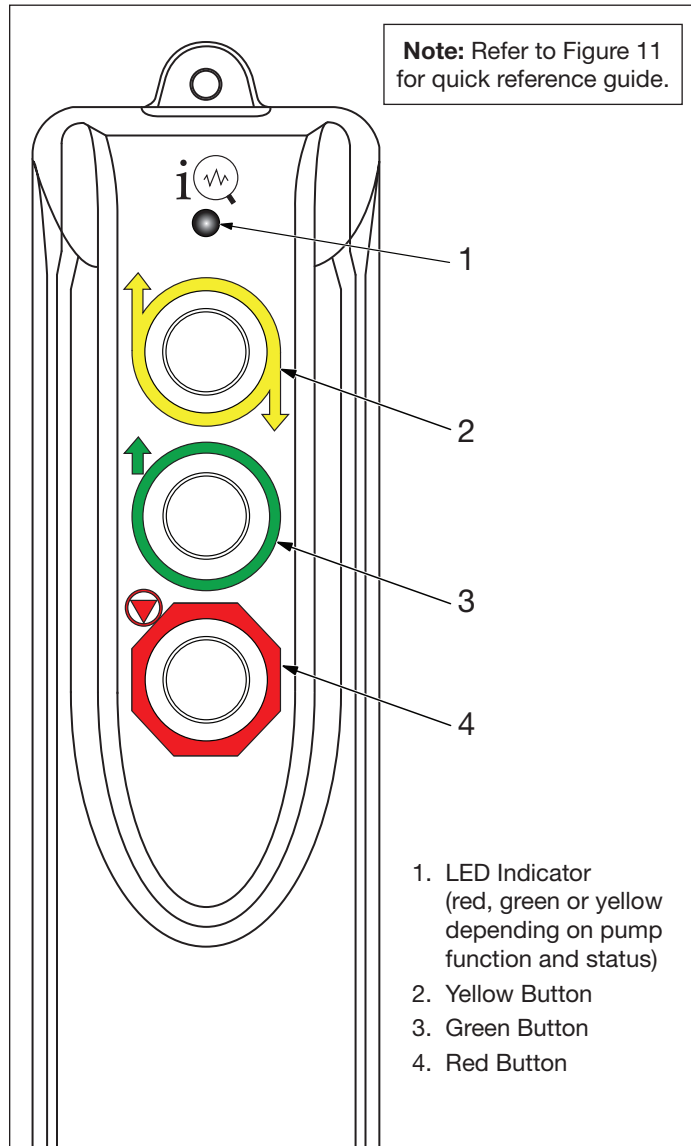

Figure 5, Pendant Controls
The pump includes a three-button corded pendant that operates pump functions. It is connected to the pump with a 20 ft [6 m] cable. A multi-color LED indicator light communicates pump status. See Figure 5.
2. Press and hold the red pendant button. See Figure 5.